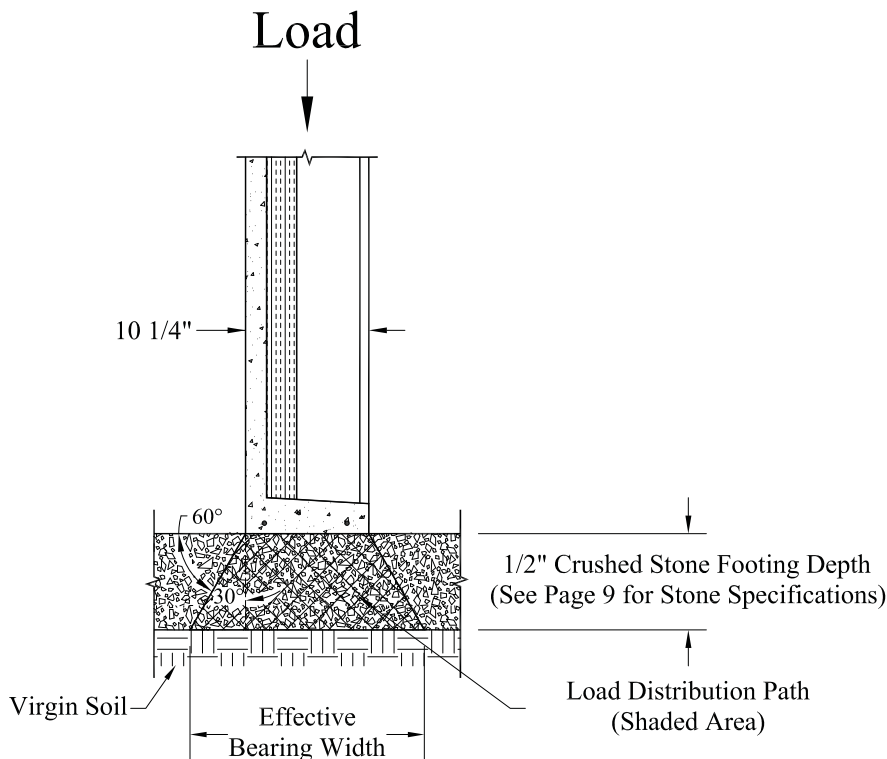

Figure 1
4. As the depth of the crushed stone layer increases, the effective bearing width on the underlying soil also increases. (See Figure 1.)
- When the Minimum Depth of the 1/2" Clean Crushed Stone Footing is greater than 20", the pipe must be located at a greater distance than one foot (12") to ensure that the pipe is not located within the Crushed Stone Footing "Load Distribution Path". (See Figure 1.)
- Note: Other code-approved stone sizes may be used under the floor slab, adjacent to the clean crushed stone footing and the "Load Distribution Path" (Figure 1 on page 4). When using other code-approved stone sizes under the slab, the transition from the "Superior Walls specified stone" shall occur two feet (24") from the interior edge of the panel / wall. The perforated drain pipe must be located in the "Superior Walls specified stone."